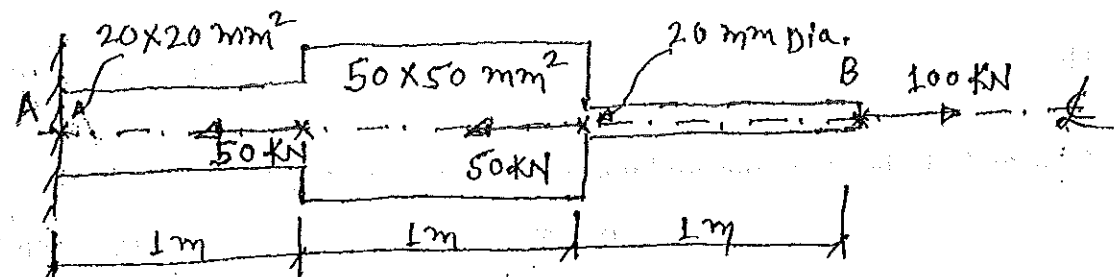

Fig. 1
- b) A compound bar with loading is shown in Fig. 1. What is the relative position of point B with respect to point A? Take the Young's modulus of elasticity of the bar as 210 GPa. (13)